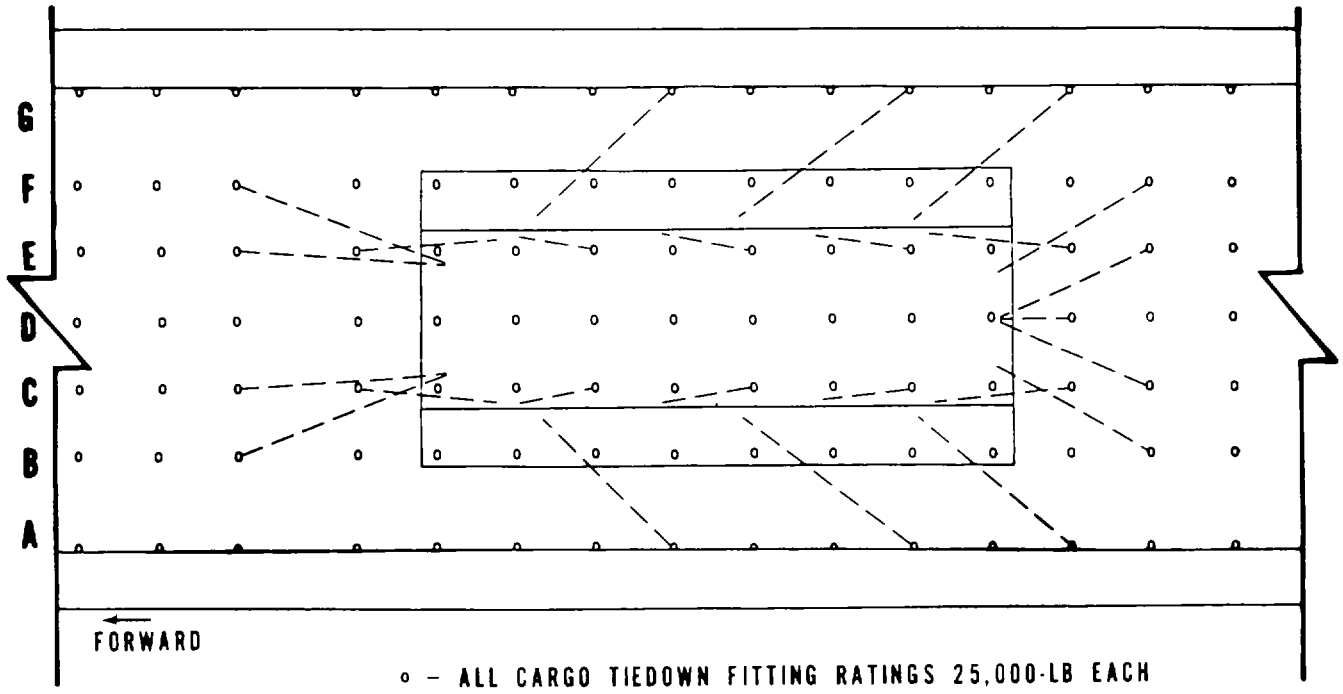

Figure 4-1. Tiedown diagram for M60-series tank in US Air Force C-5 airplane.
- (2) All externally and internally stowed equipment must be secured.
- (3) The vehicle should be loaded as indicated in figure 4-1.
- (4) The vehicle transmission must be placed in neutral, and the brakes set.
(5) For acceptable restraint, the vehicle must be tied down in accordance with the pattern shown in figure 4-1 and data given in table 4-1.